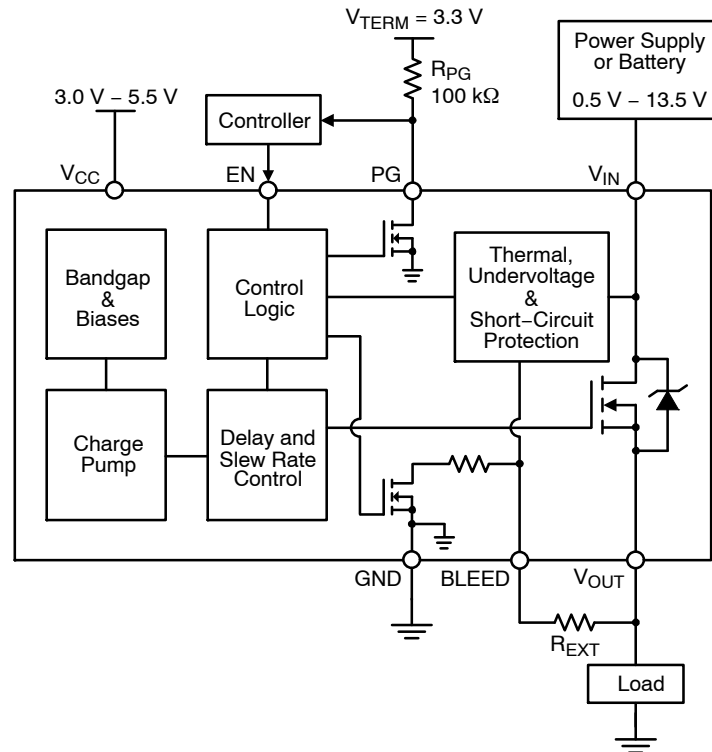
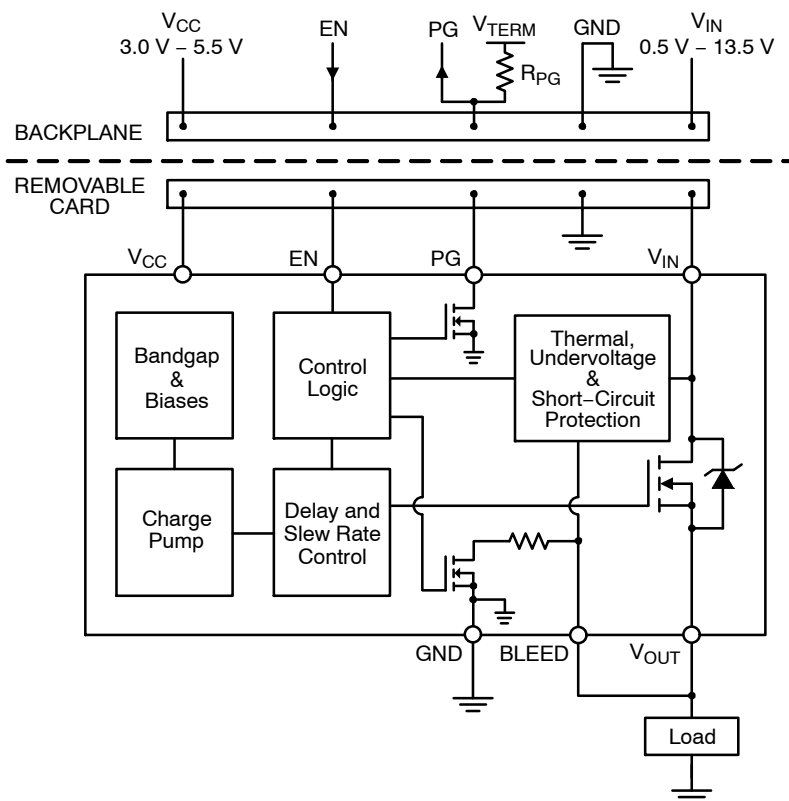

Figure 3. NCP45520 Typical Application Diagram – Load Switch
Figure 4. NCP45520 Typical Application Diagram – Hot Swap
It is required that the BLEED pin be connected to V_{OUT} either directly (as shown in Figures 4 and 7) or through an external resistor, R_{EXT} (as shown in Figures 3 and 6). R_{EXT} should not exceed 1 k Ω and can be used to increase the total bleed resistance.
The NCP45520 devices have a power good output (PG) that can be used to indicate when the gate of the MOSFET is fully charged. The PG pin is an active-high, open-drain output that requires an external pull up resistor, R_{PG} , greater than or equal to 1 k Ω to an external voltage source, V_{TERM} , that is compatible with input levels of all devices connected to this pin (as shown in Figures 3 and 4).
Once active, the circuitry monitors the difference in the voltage on the V_{IN} pin and the voltage on the BLEED pin. In order for the V_{OUT} voltage to be monitored through the BLEED pin, it is required that the BLEED pin be connected to V_{OUT} either directly (as shown in Figures 4 and 7) or through a resistor, R_{EXT} (as shown in Figures 3 and 6), which should not exceed 1 k Ω . With the BLEED pin connected to V_{OUT} , the short-circuit protection is able to monitor the voltage drop across the MOSFET.